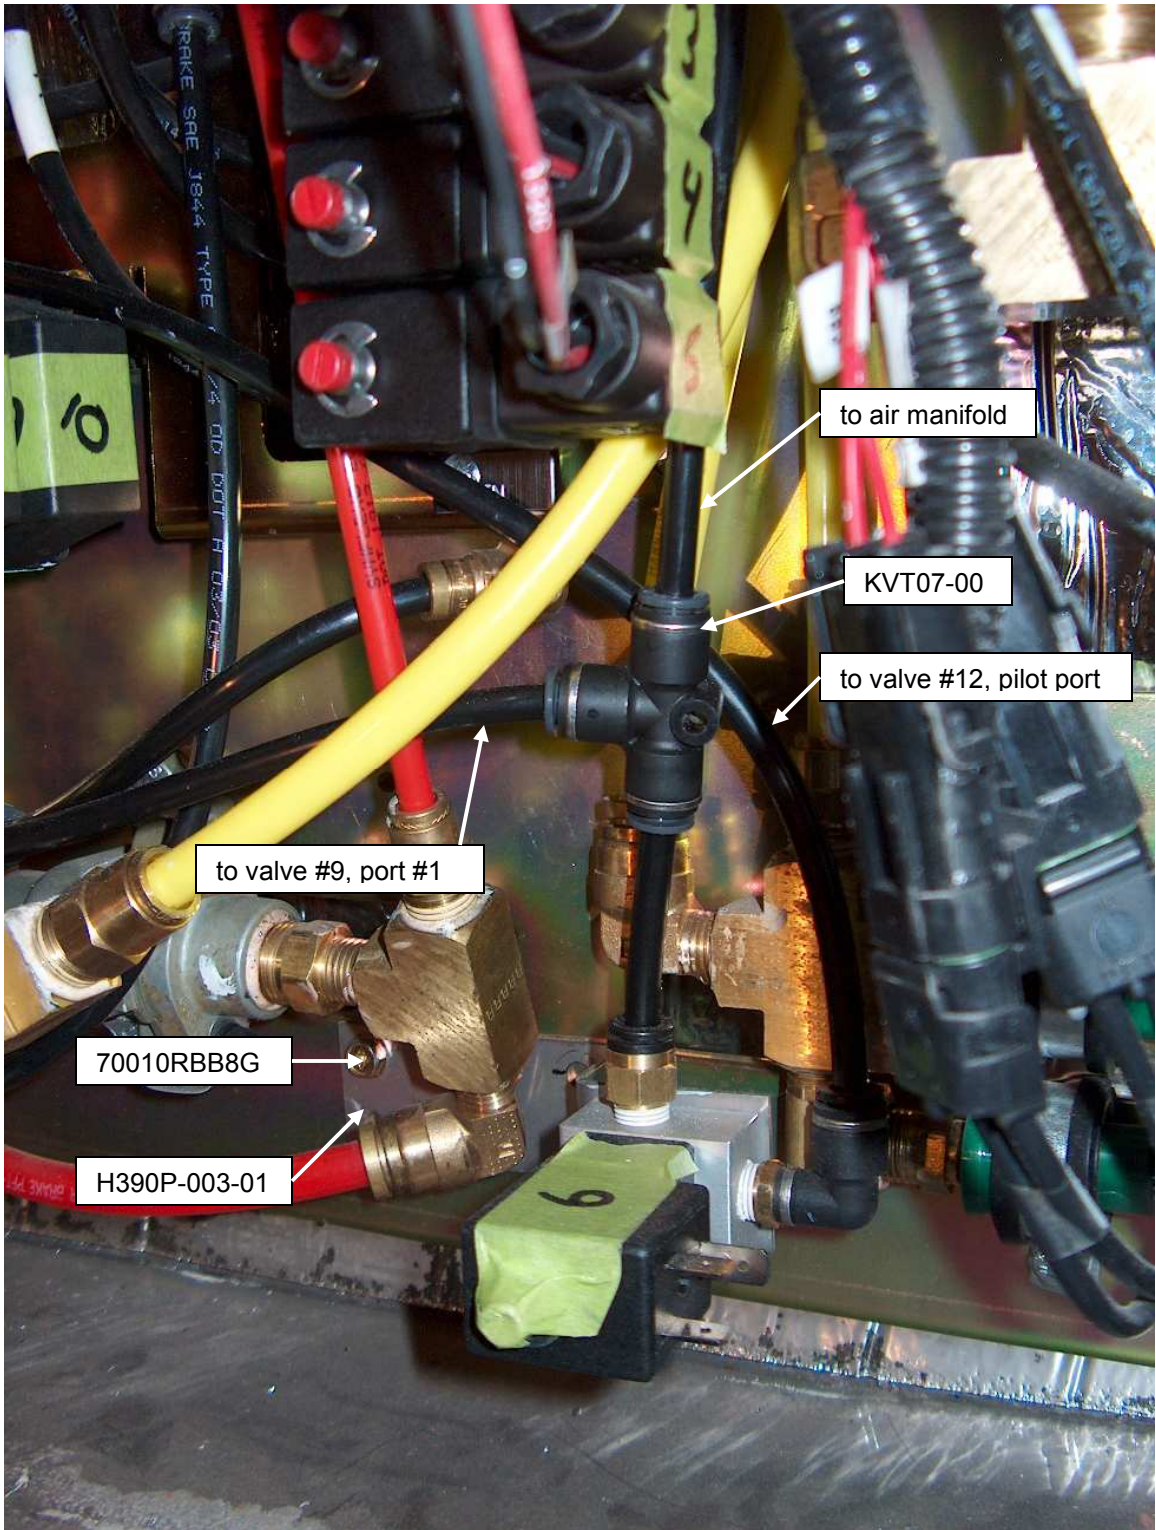

Figure 5 – Valve #6 Mounting
5. Mount valve #6 to H390P-003-01 using (2) SHC4M16, layout and drill (2) 5/32" holes in panel, and mount assembly using (2) 70010RBB8G screws as shown in Figure 5.
8. Install air line from air manifold (above panel) to KVT07-00 (tee); install one line to valve #6 and one to port #1 on valve #9; install one line from valve #6 to the pilot port on valve #12, as shown in Figure 5.